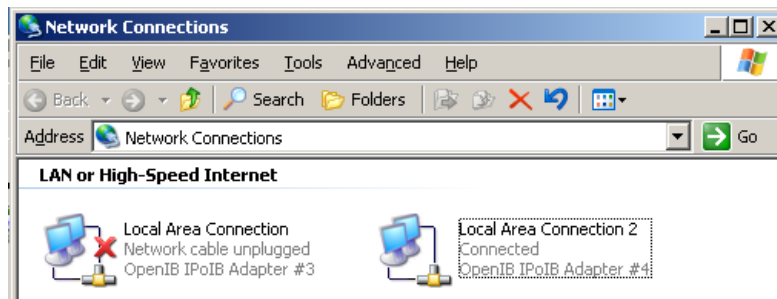

Figure 4-49 IP over InfiniBand Adapters in Network Connections
5. Inside windows Network Connections, you see two Local Area Connections, one for each IPoIB interface, as shown in Figure 4-49.